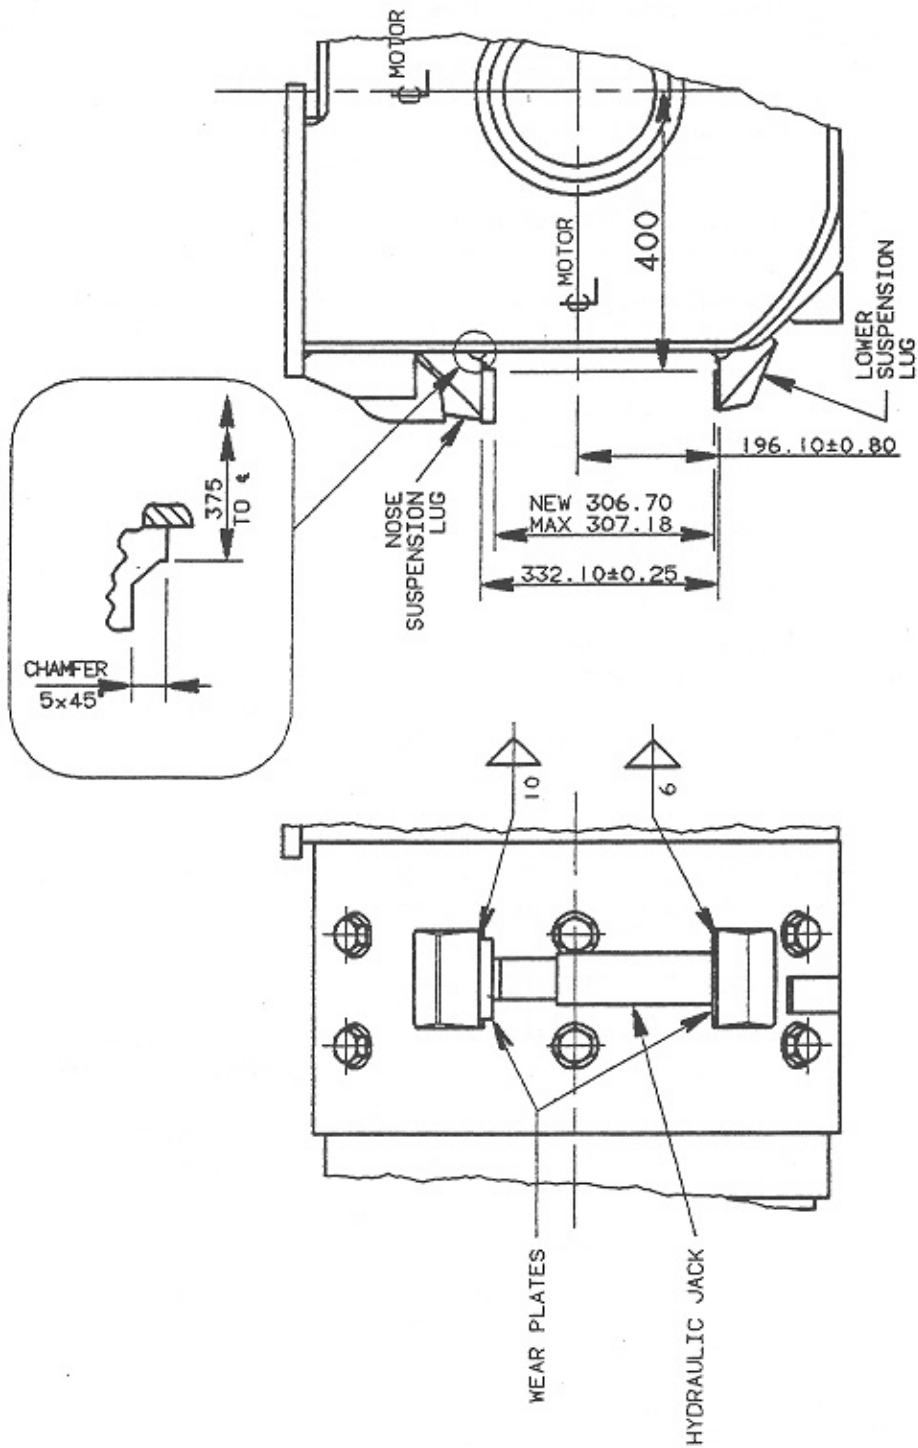

Fig. 31 - Nose Suspension Lugs and Wear Plates
If the distance between wear plate and lower suspension lug machined surface is more than 307.18 mm (12-3/32"), refer to Fig. 31 and perform the following procedure.
1. Check the lower suspension lug dimension from horizontal centreline of motor. If dimension is greater than limits of Fig. 31, area should be milled to dimension of Fig. 31 and a 6.35 mm (.250") wear plate welded to suspension lug. Refer to Wear Plate Welding Procedure which follows. It is not necessary to maintain the 45° chamfer on lower suspension lug as shown in Fig. 31, but maintain the 375 mm (14-3/4") dimension from vertical centreline of motor as shown in Fig. 31.
The proper preparation of motor frame surface is very important to successful application of the wear plates. The frame surface must be smooth and flat. Remove any weld beads or high spots. If the nose bracket face dimension is not within tolerance of Fig. 31, the surface must be welded and remachined. Perform the following procedure to install wear plates if required.